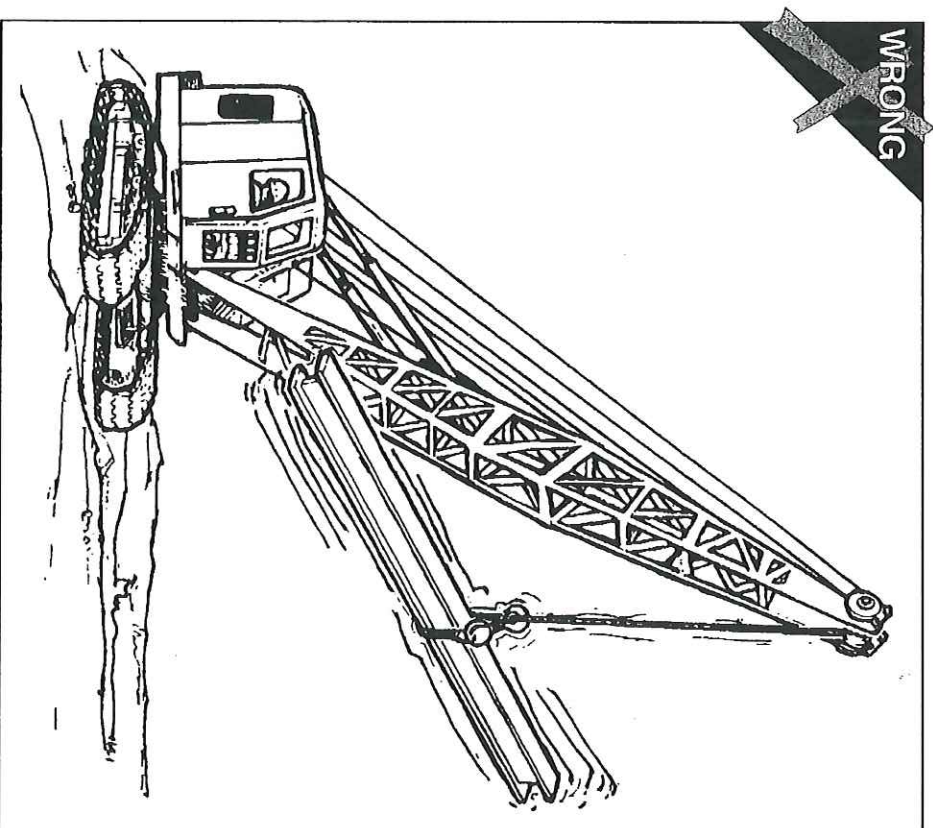

FIG. 19
- The hoist line is **not** wrapped around the load in place of a sling or chain. (FIG. 19)